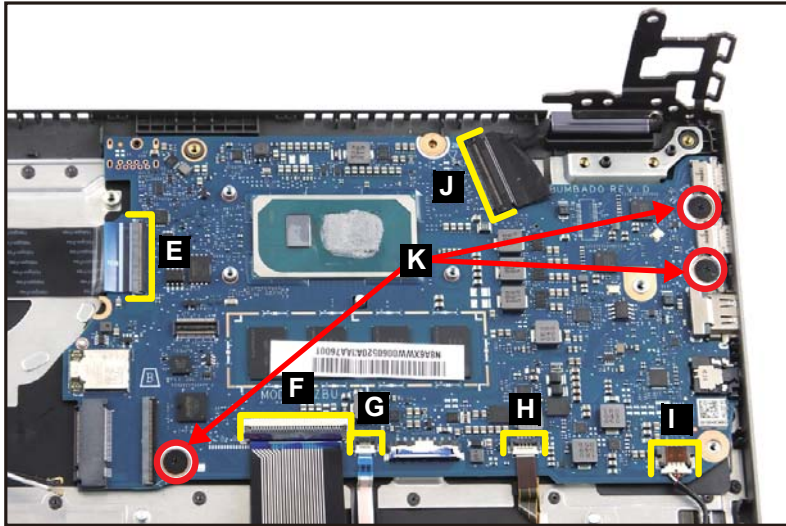

Figure 1-32. Mainboard Removal
6. Disconnect the 40-pin USB board FFC to the mainboard connector (E) (Figure 1-32).
7. Disconnect the keyboard FPC from the mainboard connector (F) (Figure 1-32).
8. Disconnect the touchpad FFC from the mainboard connector (G) (Figure 1-32).
9. Disconnect the keyboard backlight FPC from the mainboard connector (H) (Figure 1-32).
10. Disconnect the speaker cable from the mainboard connector (I) (Figure 1-32).
11. Disconnect the eDP cable from the mainboard connector (J) (Figure 1-32).
12. Remove three (3) screws (K) securing the mainboard in place (Figure 1-32).